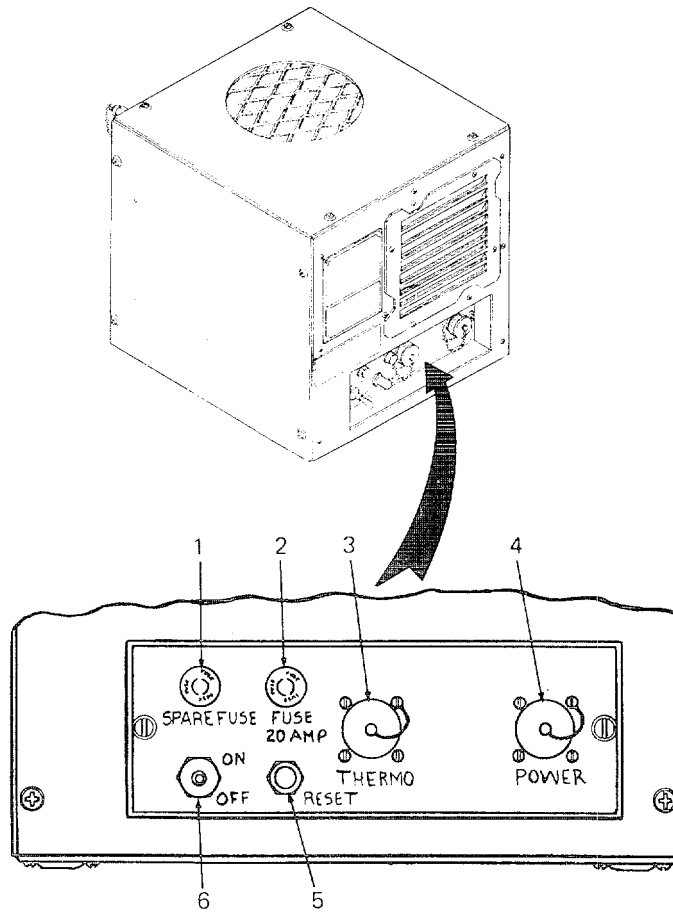
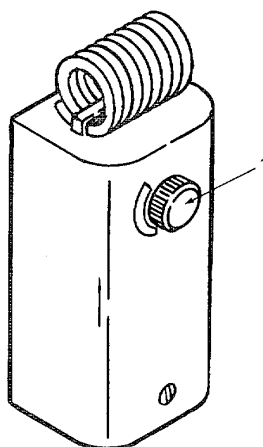

Figure 2-1. Heater Control Panel Controls and Indicators.
Figure 2-2. Room Thermostat.
b. Before operating the heater, you must become familiar with the controls and indicators provided on the unit. The operating controls are installed on the control panel (Figure 2-1), and on the room thermostat (Figure 2-2).
2-2. HEATER CONTROLS AND INDICATORS (Figure 2-1).
b. Room Thermostat (Figure 2-2). Description and function of room thermostat are contained in Table 2-2.